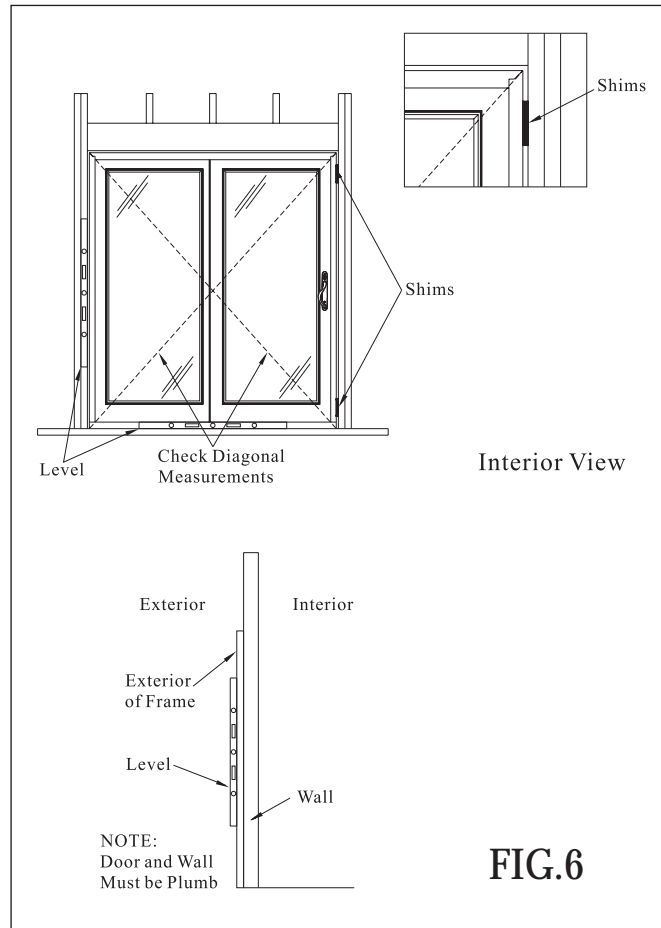

FIG.6
8. Use level to check if the jambs are straight and plumb. The sill must be leveled and straight. Make sure the diagonal measurements of the entire frame are equal. If necessary, shim the corners 8" from the sill and head jamb. (See Fig.6)